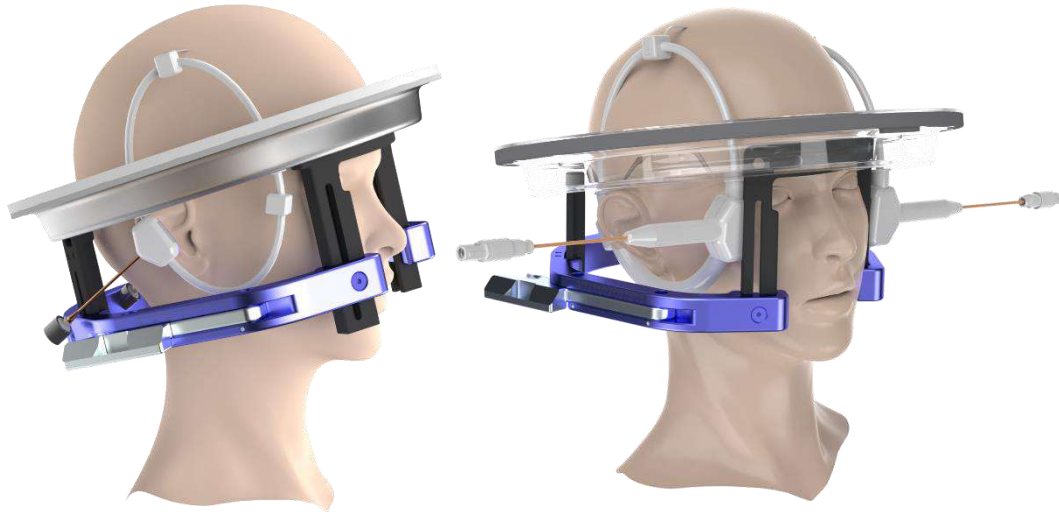
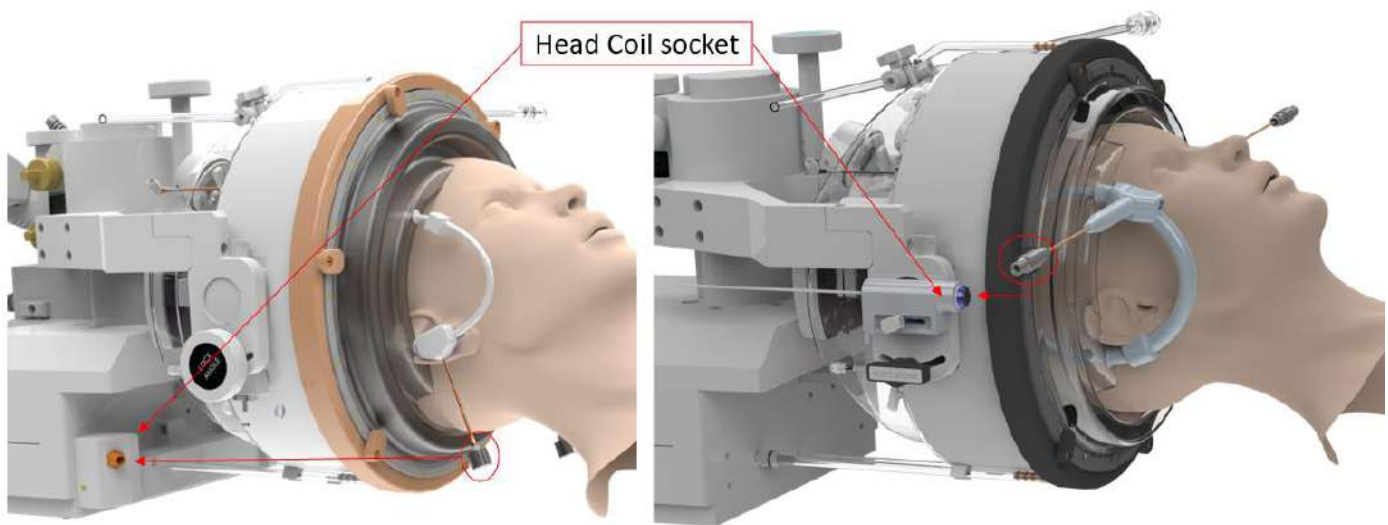

Figure 3-7: Examples of Patient Membrane Positions
Figure 3-8: Examples of Patient Membrane dispositions according to Head Coil Socket Position.
- For Membranes with an integrated Head Coil: Ensure the Head Coil connectors are in a compatible position relative to the coil socket position of the transducer (See **Figure 3-7** and **Figure 3-8**).
7. If applicable: connect Head Coil (see **Figure 3-8**).